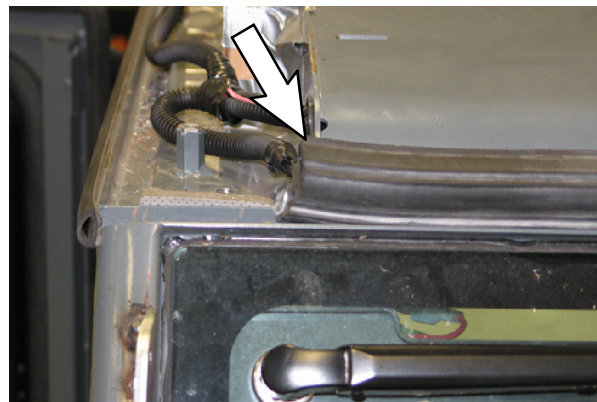

FIG. 2
2. Cut 2"-3" from the seal located at the top front corner of the cab to make room to install the mirror mounting bracket (1) onto the cab. Refer to Fig. 2.